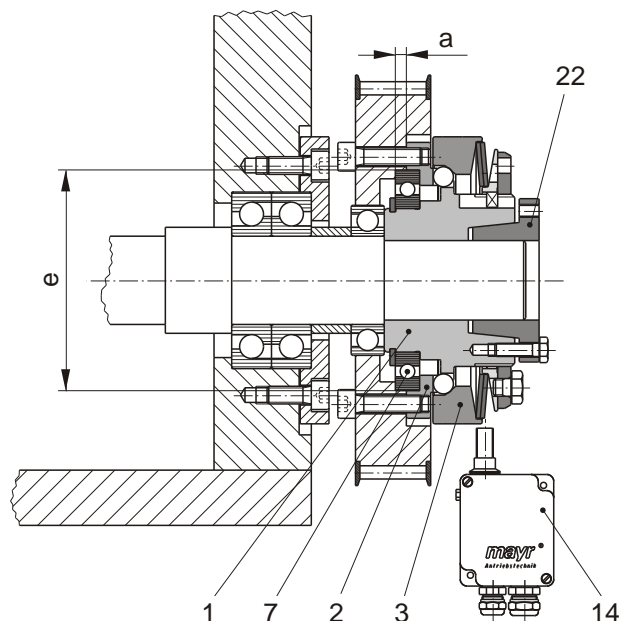

Fig. 4
If the resulting radial force from the output element is anywhere near the centre of the ball bearing (7) and under the max. permitted radial load acc. Table 3, an additional bearing for the output element is not necessary. In case of very wide output elements and a force application of the resulting radial force outside the bearing centre, the output element is additionally located on the shaft, Fig. 4.
Please ensure that the output element bearing is designed as a fixed bearing (Fig. 4).